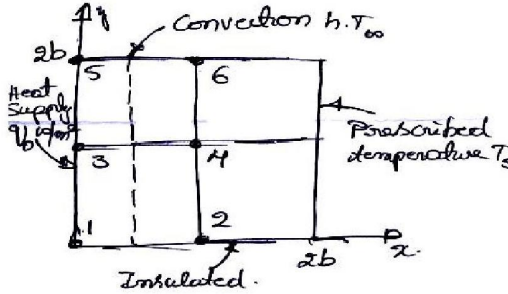

Fig. Q5 (b)
- b. Consider steady-state heat conduction in a square region of side $2b$, in which energy is generated at a constant rate of $g \text{ W/m}^3$. The boundary conditions for the problem are shown in Fig. Q5 (b). Write the finite difference equations for nodes 1, 3 and 5 in this Fig. Q5 (b) (07 Marks)